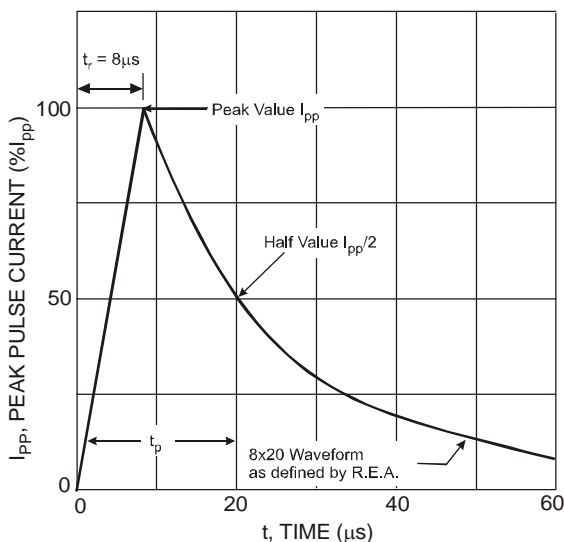

Fig. 1 Typical 8 x 20μs Pulse Waveform
4. Measured from channel to pin 3; Non-repetitive current pulse per Fig. 1.